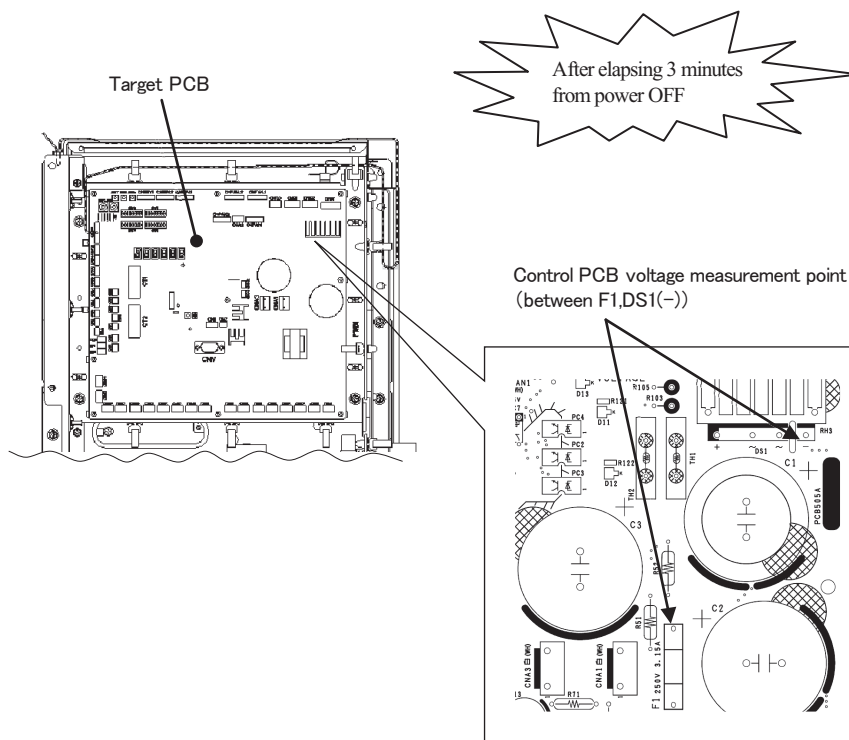

Fig.2 Voltage measurement points
(Be sure to measure voltage (DC) and check that the voltage is discharged sufficiently. (Refer to Fig.2.))